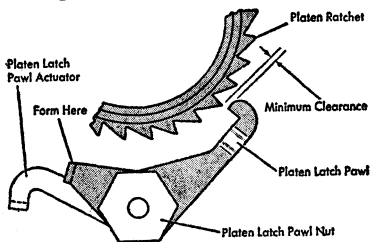

Figure 1. Platen Latch Pawl Adjustment
- a. With both sectors loosened, position the detent release lever in the center position. Form the front end of the platen latch pawl for minimum clearance between the rear of the pawl and the teeth of the platen ratchet (Figure 1).